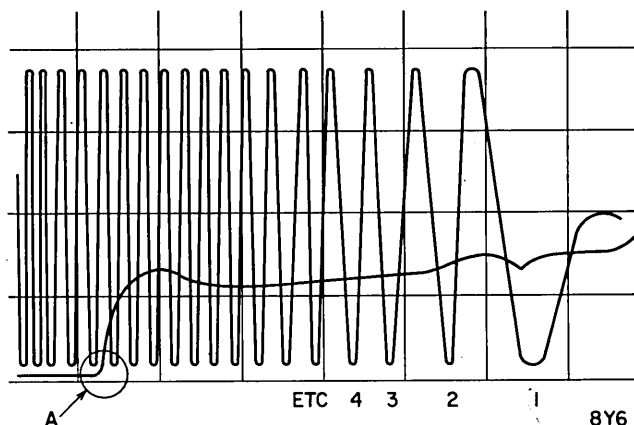

Figure 3-9. Coarse Position Gain Waveform
5. Adjust coarse position gain (top pot) on A27 so that point A (Figure 3-9) lies between the 14th and 15th negative pulses. Allow the drive to access at this adjustment for 1 minute to allow temperature stabilization. Readjust if necessary.
1. Adjust coarse position gain (top pot on A27) so that point A (Figure 3-9) lies on 7th pulse.
- b. Velocity transducer defective. (Excessive velocity drift causes point A on Figure 3-9 to drift to first pulse.)
4. Readjust coarse position gain (top pot on A27) so that point A (Figure 3-9) lies between 14th and 15th negative pulses.